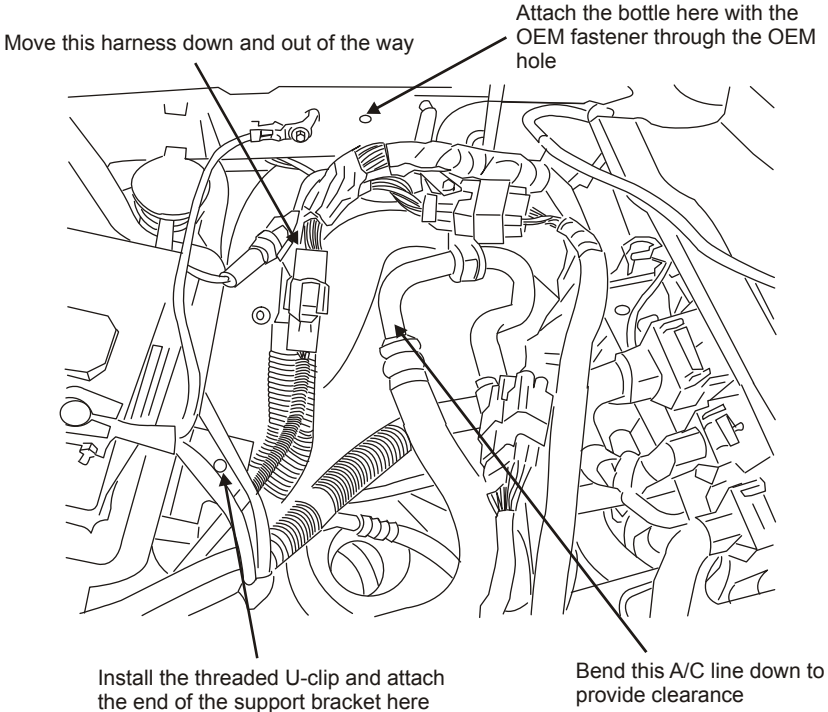

Figure 2.4
- Remove the wire harness securing clip on the passenger side of the engine just behind the battery box and ground mount point (Figure 2.4).